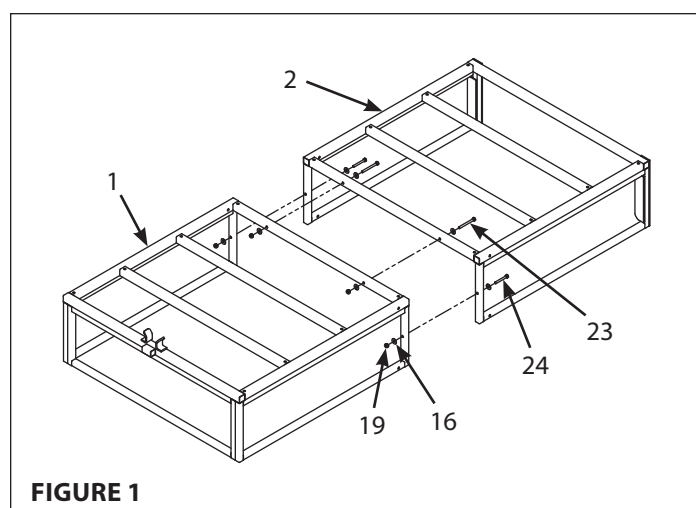

FIGURE 1
1. Secure the sides of the front trailer frame (1) to the sides of the rear trailer frame (2) using two M6x50mm bolts (24), M6 steel washers (16) and M6 locknuts (19). **SEE FIGURE 1**
2. Secure the bottom of the front trailer frame (1) to the bottom of the rear trailer frame (2) using two M6x65mm bolts (23), M6 steel washers (16) and M6 locknuts (19). **SEE FIGURE 1**